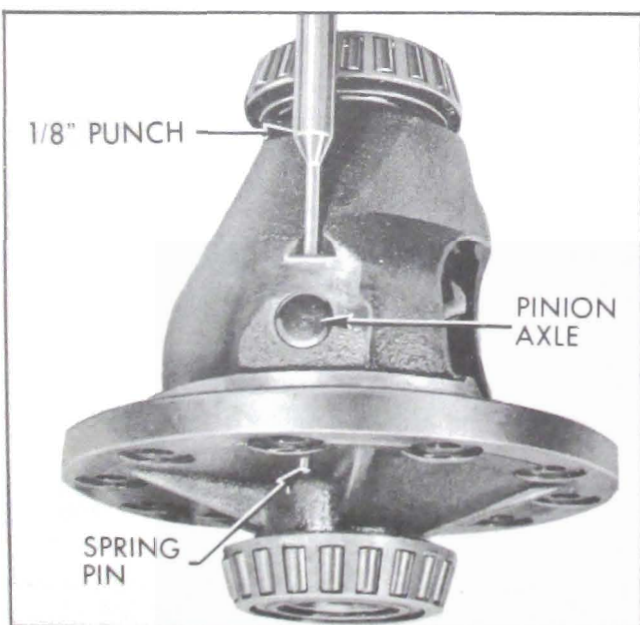

Figure 6-13—Removing Spring Pin from Pinion Axle
3. Drive spring pin from differential pinion axle. See Figure 6-13. Drive pinion axle from case. Remove differential pinions, side gears and thrust washers from case.